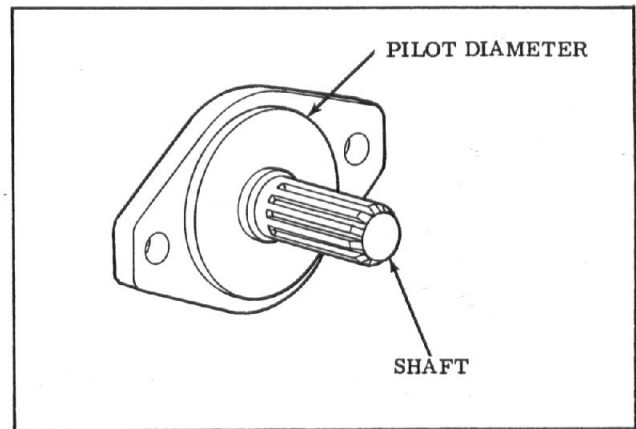

Figure 6 - Drive End of Pump
1. Direct Drive - A pilot on the pump mounting flange (Figure 6) assures correct mounting and shaft alignment, provided the pilot is firmly seated in the accessory pad of the power source. Care should be exercised in tightening all flange mounting screws to prevent misalignment.